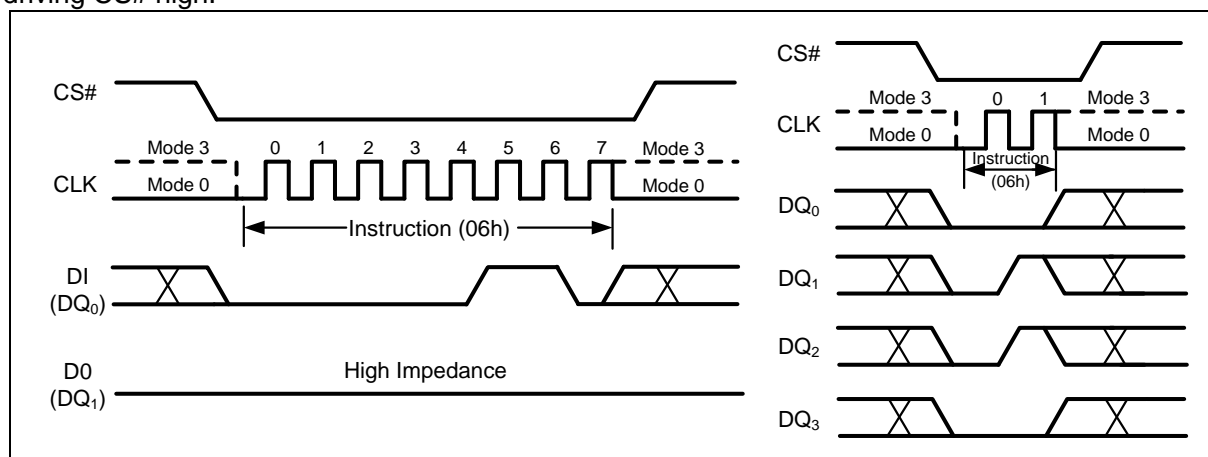

Figure 7 Write Enable Instruction for SPI Mode (left) or QPI Mode (right)
The Write Enable (WREN) instruction (Figure 7) sets the Write Enable Latch (WEL) bit in the Status Register to a 1. The WEL bit must be set prior to every Page Program, Quad Page Program, Sector Erase, Block Erase, Chip Erase, Write Status Register and Erase/Program Security Sectors instruction. The Write Enable (WREN) instruction is entered by driving CS# low, shifting the instruction code “06h” into the Data Input (DI) pin on the rising edge of CLK, and then driving CS# high.